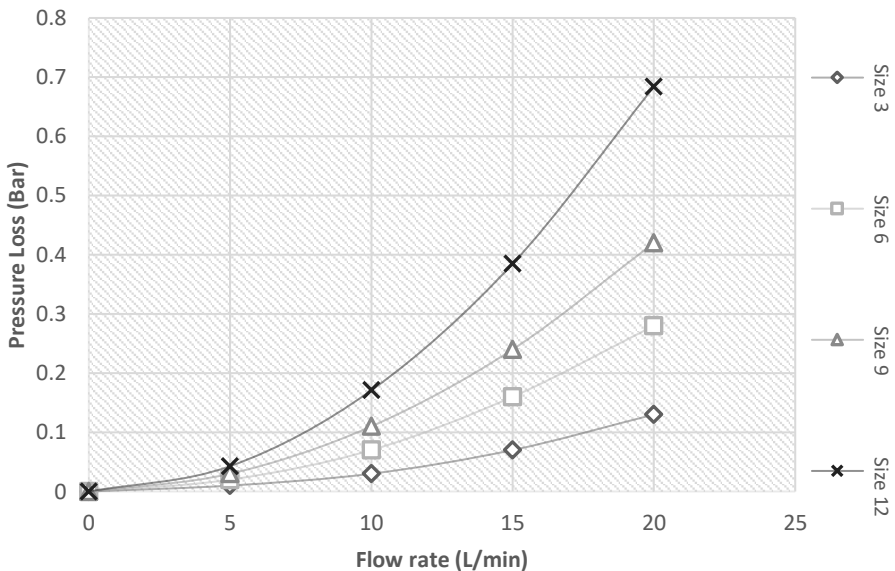
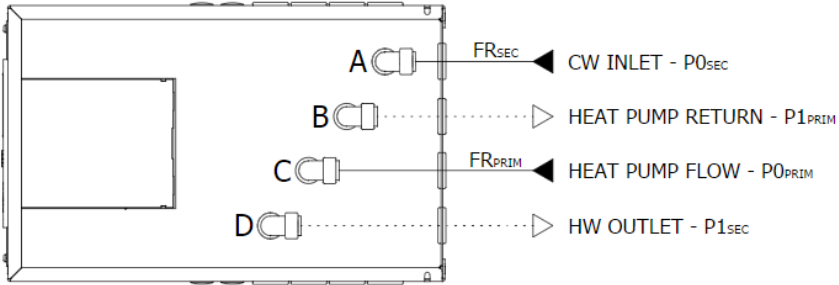

Figure 6.1: UniQ HW +iLTHP Heat Battery Secondary circuit pressure loss characteristics graph
Figure 6.3: Pressure loss at inlet & outlet of the Heat Battery
The primary circuit of the heat battery is connected to the heat pump flow and return as shown schematically in (Figure 6.3). The primary circuit design flow rate will depend upon the thermal rating of the heat pump and the design temperature difference. For a typical system, the primary flow rates are given in (Table 9), Primary flow rate in the heat battery charging circuit should be set to give around 7°C temperature difference to minimise flow rates.
The secondary circuit of the heat battery is connected to dwelling hot water circuit as shown schematically in (Figure 6.3). The pressure loss values can be read in (Figure 6.1).
Note: The mains cold water inlet connects to port A; Hot water outlet connects to port D. Meanwhile the LTHP flow pipe connects to Port C and the LTHP return pipe connects to Port B (Figure 6.3).
- Mains cold water supply should be connected to Heat Battery connection 'A'. The hot water outlet should be connected to 'D'. Heat Pump Flow should be connected to Heat Battery connection 'C' and Heat Pump Return should be connected to Heat Battery connection 'B'. (see Figures 6.3, 12.1 and 13.1).